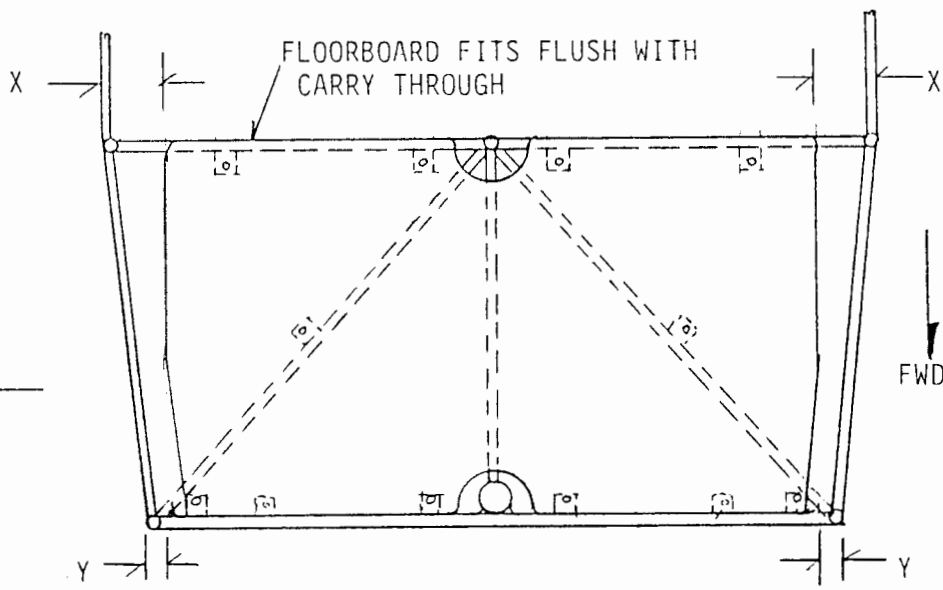

FIGURE 04-02
1. Rivet the 3/16" nut plates to the top side of the two tabs located on the bottom of the S-1 bottom crossing tube. These serve as cowl tabs. (See Figure 04-02)
2. The floorboard comes pre-cut and finished, ready to position and bolt in place. Locate and clamp the floorboard as shown in Figure 04-02. HINT: Pull the nose gear out enough to slip the floorboard in from the top. Turn floorboard 90 degrees to insert then rotate into position. The floorboard front edge will be attached to the firewall floorboard attach angle. This is done AFTER the firewall is installed.